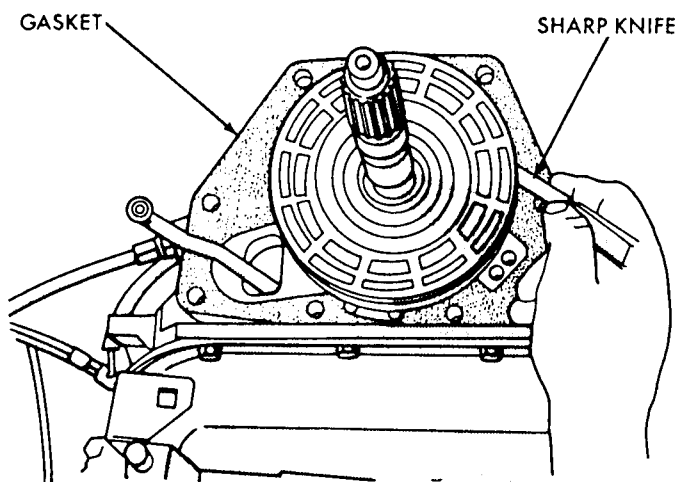

Fig. 1—Carefully Cut out Old Gasket
(1) Before installing overdrive unit, it will be necessary to cut out the old gasket. Using a sharp knife, cut out the old gasket around the piston (Fig. 1). Place the old gasket on the new gasket for a template, and trim the new gasket to fit.